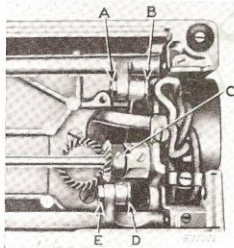

Fig. 116. Feed Dog Adjustment.
In case the hook is not correctly timed, turn the machine over on its rear side and remove the bottom cover plate after taking off the thumb nut which holds the bottom cover plate in place. Loosen the two set screws (C, Fig. 116), making sure that the gear is pushed against the bushing at the right hand end of the shaft, and that the slightly raised portion or "boss", on one side of the collar and counterbalance is against the bushing to prevent end play.
When it is necessary to raise or lower the feed dog, remove the bottom cover plate and loosen the nut (E, Fig. 116) on the end of the feed lifting eccentric screw (D, Fig. 116). Turn the eccentric screw (D) until the high throw of the eccentric is toward the rotary hook shaft gear (C, Fig. 116). When the eccentric screw (D) is in this position, the top of the feed dog teeth will be at the correct height above the throat plate. Be careful not to adjust the feed dog low enough to strike the hook when the feed is in reverse and when the longest stitch is being used. Then securely tighten nut (E, Fig. 116).
The feed dog should be positioned in the slots of the throat plate so that it will not come in contact with the throat plate at either end of the slots during its travel. If the feed dog is not correctly positioned, remove the bottom cover plate. Loosen the nut (A, Fig. 116) on the end of the eccentric screw, (B, Fig. 116) and turn the screw so that the centre row of teeth will be close to the end of the feed dog slot nearest the needle hole in the throat plate, but not close enough to strike the end of the slot. The eccentric screw (B, Fig. 116) is in correct position when the high throw of the eccentric is upward and away from the gear (C, Fig. 116) on the hook shaft.